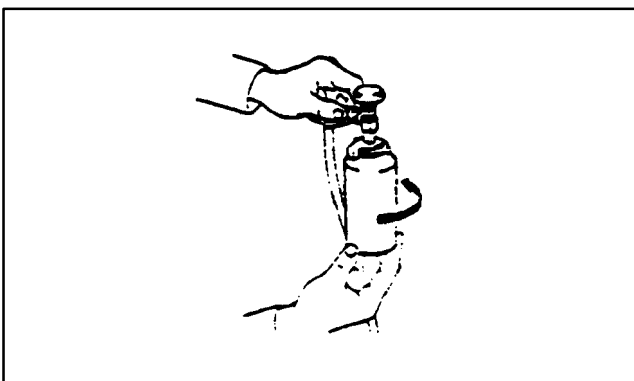

Figure 7
- (2) Turn the oil charge can with holder clockwise to the service can valve until it cannot turn any further. **(Figure 7)**